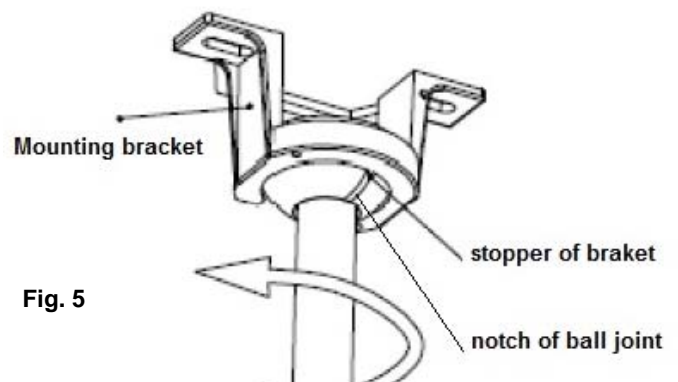

Fig. 5
6. Lift fan assembly onto mounting bracket. Fig.5.